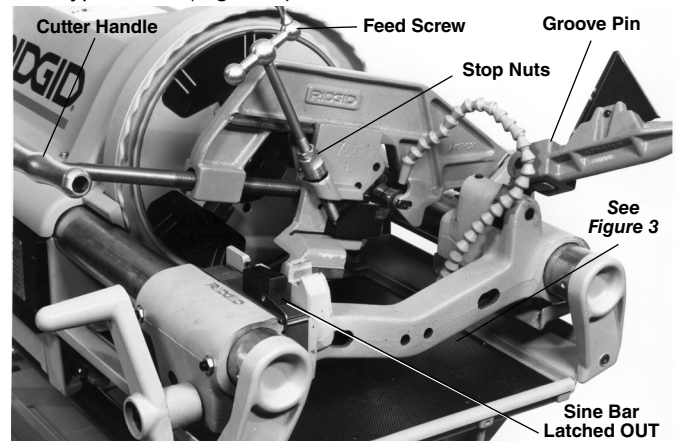

Figure 2 – No. 766 Blade Type Cutter Installed (Shown with Die Head Removed for Illustration Only)
Cutter on threading machine and replace with 766 Blade Type Cutter (Figure 2).
1. On 1224, pull sine bar out away from chuck and rotate the latch down to hook it to the carriage (Figure 2).